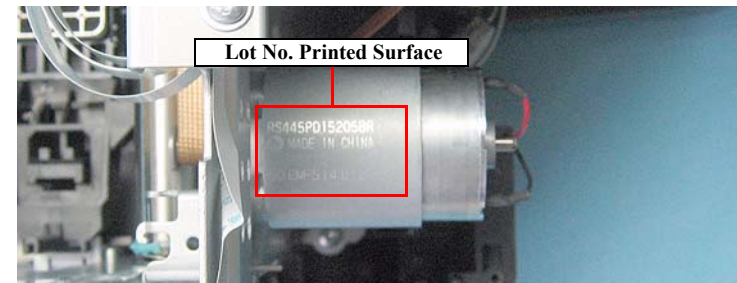

Figure 4-134. Installing the CR Motor
- Face the Lot No. printed surface of the CR Motor as shown in Figure 4-134.